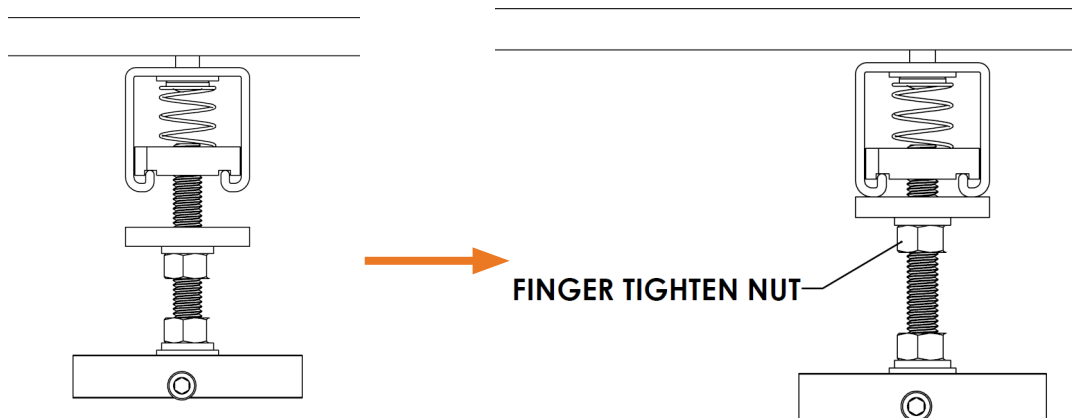

Figure 156: **Hex Nut in Place**
- c. Finger tighten the hex nut below the square channel washer to press the square channel washer against the strut (Figure 156).